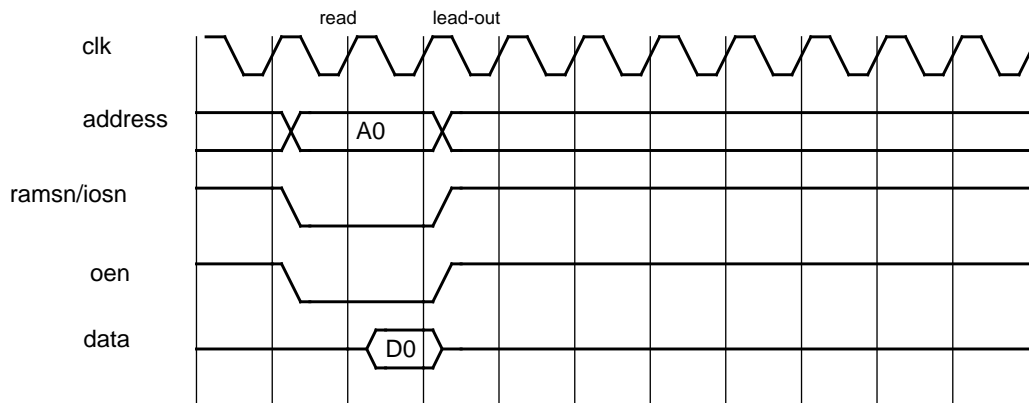
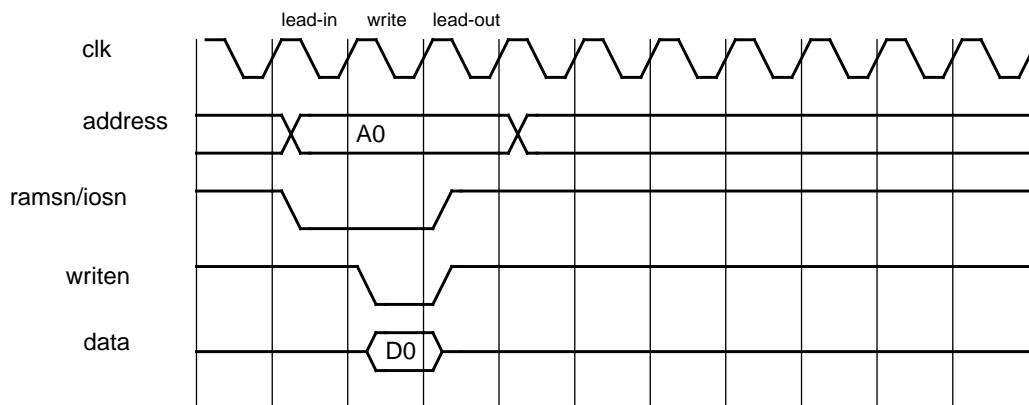

Figure 275. 32-bit PROM/IO read cycle
Figure 276. 32-bit PROM/IO write cycle
For the PROM and I/O operations, a number of waitstates can be inserted to increase the read and write cycle. The number of waitstates can be configured separately for the I/O and PROM address ranges, through a programmable register mapped into the APB address space. After a reset the waitstates for PROM area is set to its maximum (15). Figure 275 and figure 276 show timing diagrams for the PROM read and write accesses.
Read accesses to 32-bit PROM and I/O has the same timing, see figure 275
The write access for 32-bit PROM and I/O can be seen in figure 276